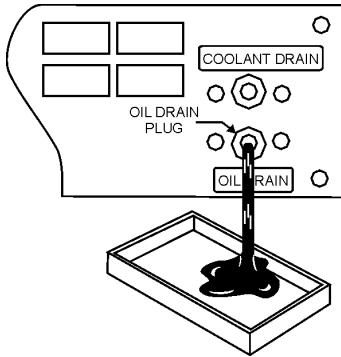

Figure 35. Engine Oil Drain Plug
1. Remove engine oil drain plug located at the bottom of the generator enclosure (Figure 35) and drain oil from crankcase. For best results drain oil while engine is warm. Reinstall oil drain plug, and add engine oil as specified in Table 8. Crankcase oil capacity is 2.64 qts. (2.5 liters).